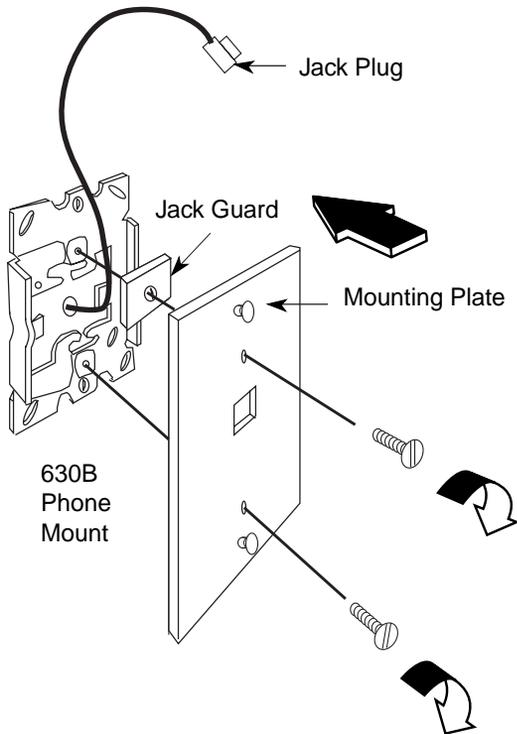

Figure 3-37. Mounting the Backplate
- c. Route the D8W cord (or DIW cable) through the hole in the backplate and have it exit at the top of the backplate; leave 10 in. (25 cm) of cord to connect the telephone. See Figure 3-37.
- e. Insert the two short screws provided with the Phonemount into the mounting plate. Be sure to thread the upper screw through the jack guard. See Figure 3-37.